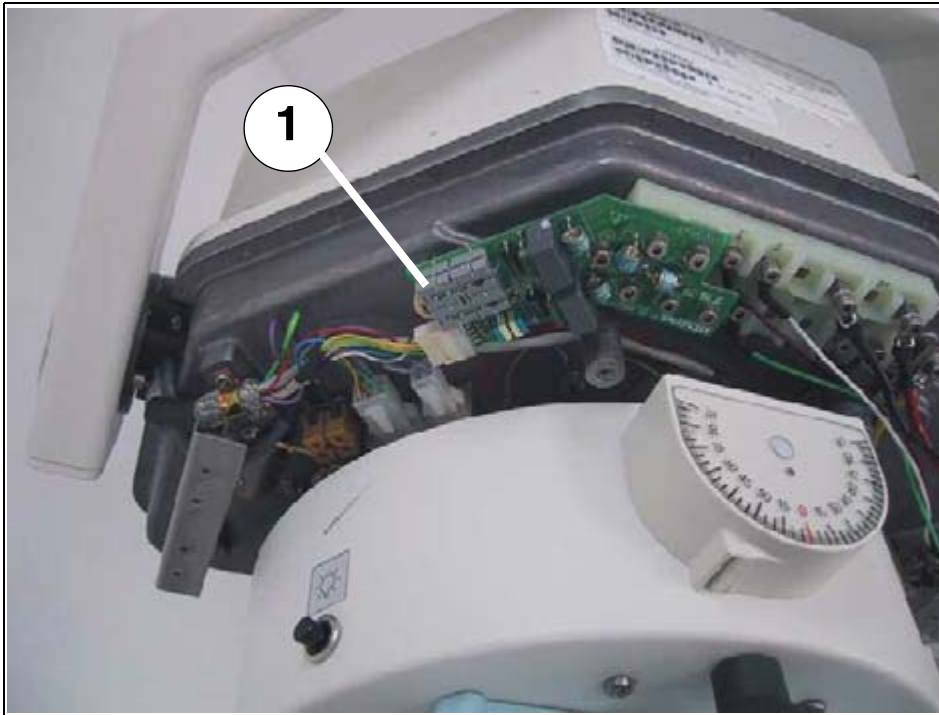

Fig. 30: mAs jumper D907
- Remove the cover from single tank and connect the mAs meter to D907 (1/ Fig. 30 / p. 64).